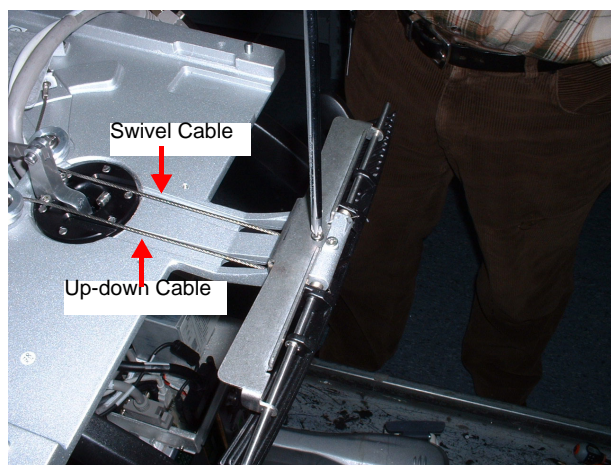

Figure 8-234 Protective Metal Plate Rotated 90 Degrees
- 3.) Unscrew the protective metal plate (shown in Figure 8-234) and rotate it upwards 90 degrees.